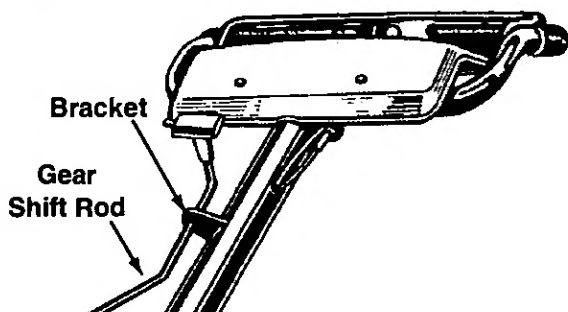

FIGURE 4.
1. Remove the hairpin clip, flat washer and rubber washer from the end of the gear shift rod. Slide the rod down through the bracket on the front of the handle assembly. See figure 4.